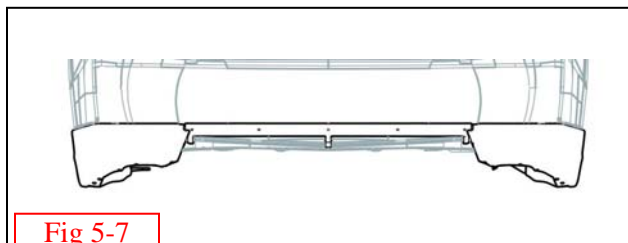
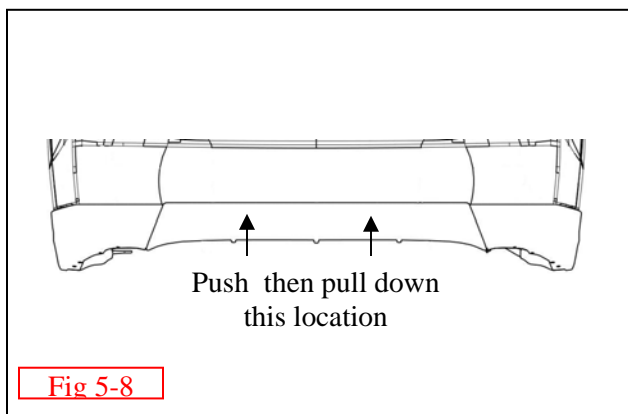

Fig 5-7
Fig 5-8
- (n) Once RH and LH are installed (Fig.5-7) Locate the rear center skirt. Spray area above the mounting bracket with soapy water. Install skirt by pushing up and in on the part Fig.5-8; making sure the tabs are clear and the part centered. Then bringing the entire